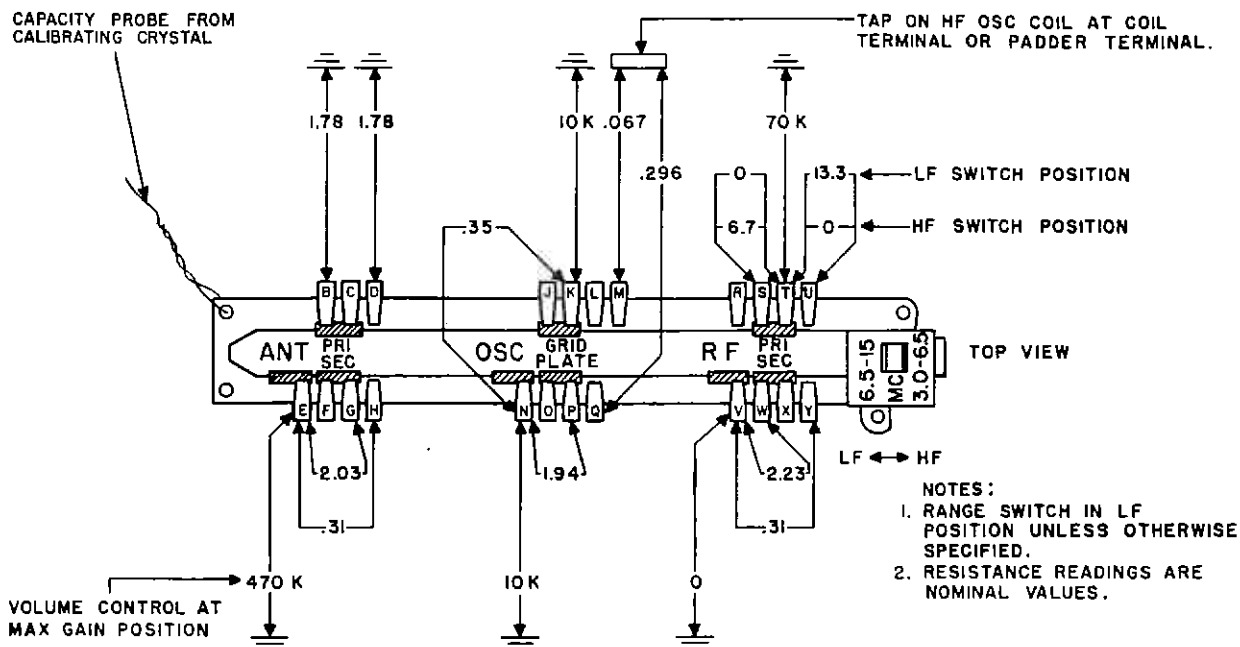

Figure 13. Point-to-point Resistance Measurements on Rangeswitch.
f. A diagram of point-to-point resistance measurements on the r-f rangeswitch is provided to locate defective coils easily. See figure 13. It is advisable to obtain an ohmmeter capable of accurate readings down to .01 ohm such as the Weston Model 301. If such a meter is not obtainable, a suitable low range ohmmeter can be constructed and calibrated as shown in figure 26.